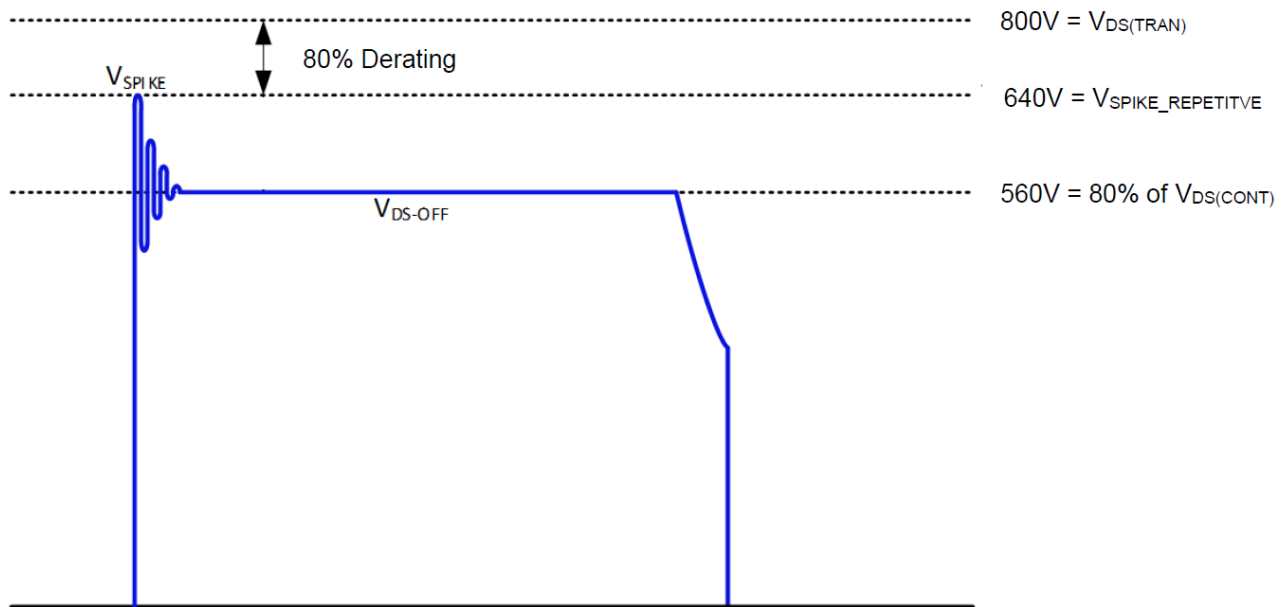

Figure 32 QR flyback drain-to-source voltage stress diagram
GaN Power ICs have been designed and tested to provide significant design margin to handle transient and continuous voltage conditions that are commonly seen in single-ended topologies, such as quasi-resonant (QR) flyback applications. The different voltage levels and recommended margins in a typical QR flyback can be analyzed using Fig. 32. When the device is switched off, the energy stored in the transformer leakage inductance will cause  $V_{DS}$  to overshoot to the level of  $V_{SPIKE}$ . The clamp circuit should be designed to control the magnitude of  $V_{SPIKE}$ . After dissipation of the leakage energy, the device  $V_{DS}$  will settle to the level of the bus voltage plus the reflected output voltage which is defined in Fig. 32 as  $V_{DS-OFF}$ .